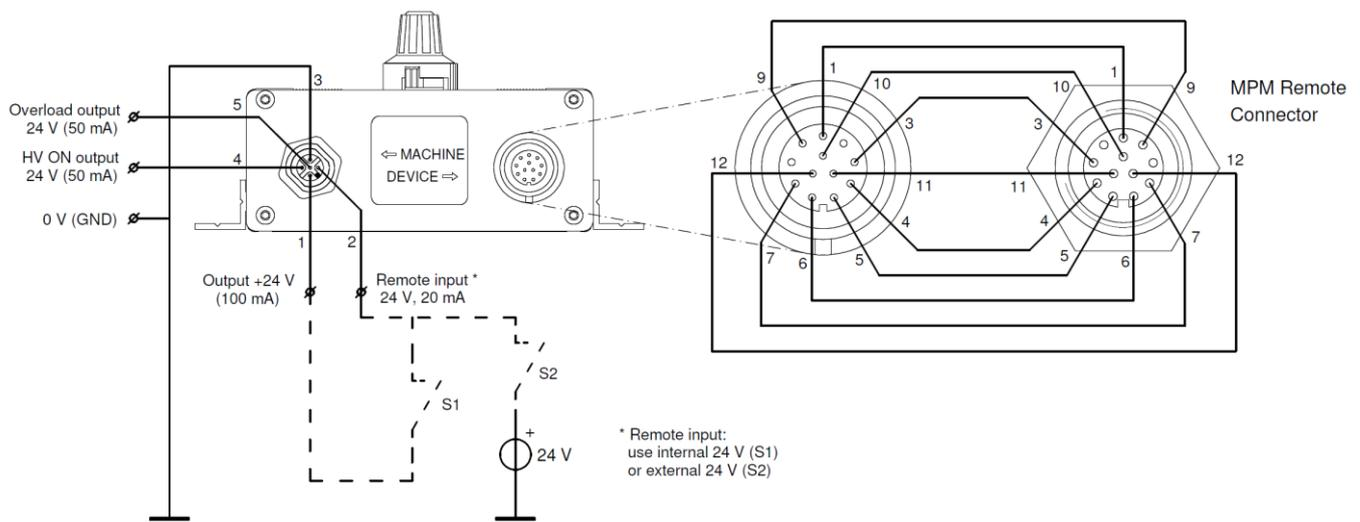

Fig. 3, External Control Unit - MPM connections.
- See fig. 3 and Table 1 for the connections of the Control Unit and the MPM.